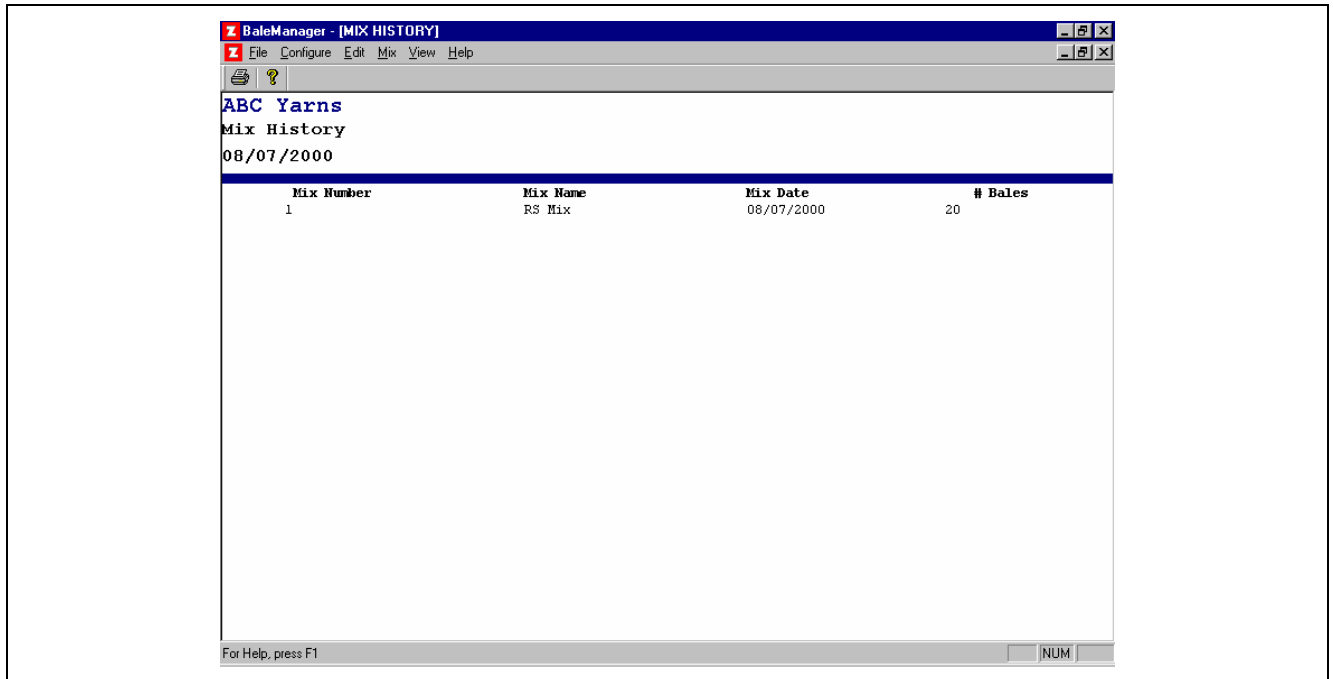

Fig. 6-53 Mix History Screen
14.1 Select Mix History and the window of Fig. 6-53 appears listing all of the previous 20 mixes. Exit by used of the upper right hand corner X to return to the window of Fig. 6-16.